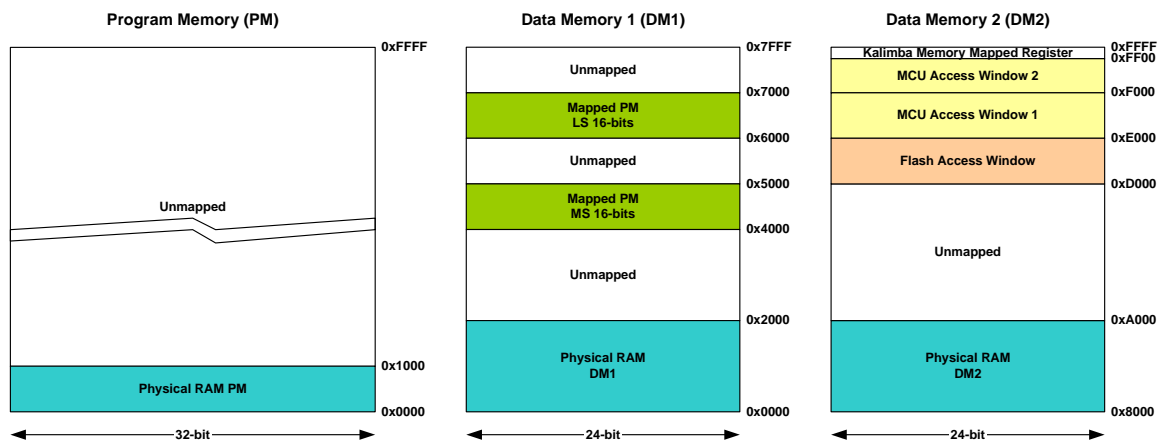

Figure 5.1: Memory Organisation
The Kalimba DSP core has two 24-bit data memory banks, DM1 and DM2, each having a 15-bit address space, and a single 32-bit program memory (PM) having a 16-bit address space. Accessing of all three memories simultaneously is possible in the same clock cycle, assuming no conflicts; this is a three bank Harvard architecture. Conflicts introduce an appropriate number of wait cycles. Figure 5.1 is a view of the Kalimba DSP memory organisation containing size information and peripheral memory mapping.
The memory organisation shown in Figure 5.1 can be broken down into their individual memory maps as depicted in the tables listed in Section 5.1.1 to Section 5.1.3 (and Appendix B Table 1 for the DSP memory map).